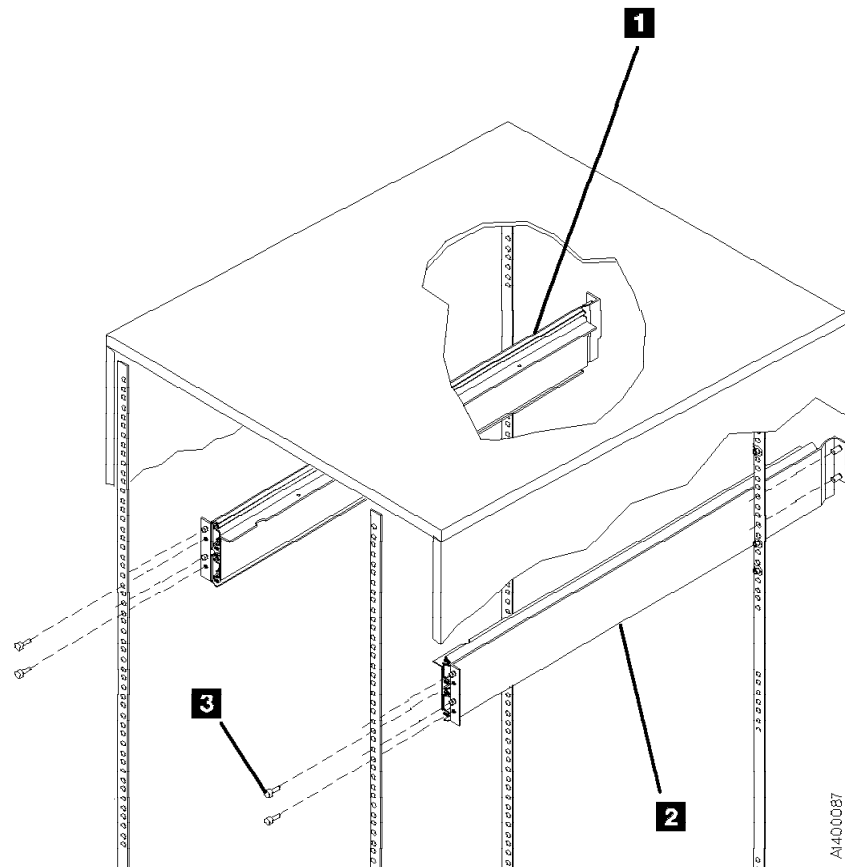

Figure 188. Slides (Front View)
- See Figure 187 and Figure 188 to install the slides for drives 0 and 1. Install right slide **2** P/N 05H2341 and left slide **1** P/N 05H2340 by using four screws **3** P/N 1624778. Install the slides so that the part that holds the tray is on top.